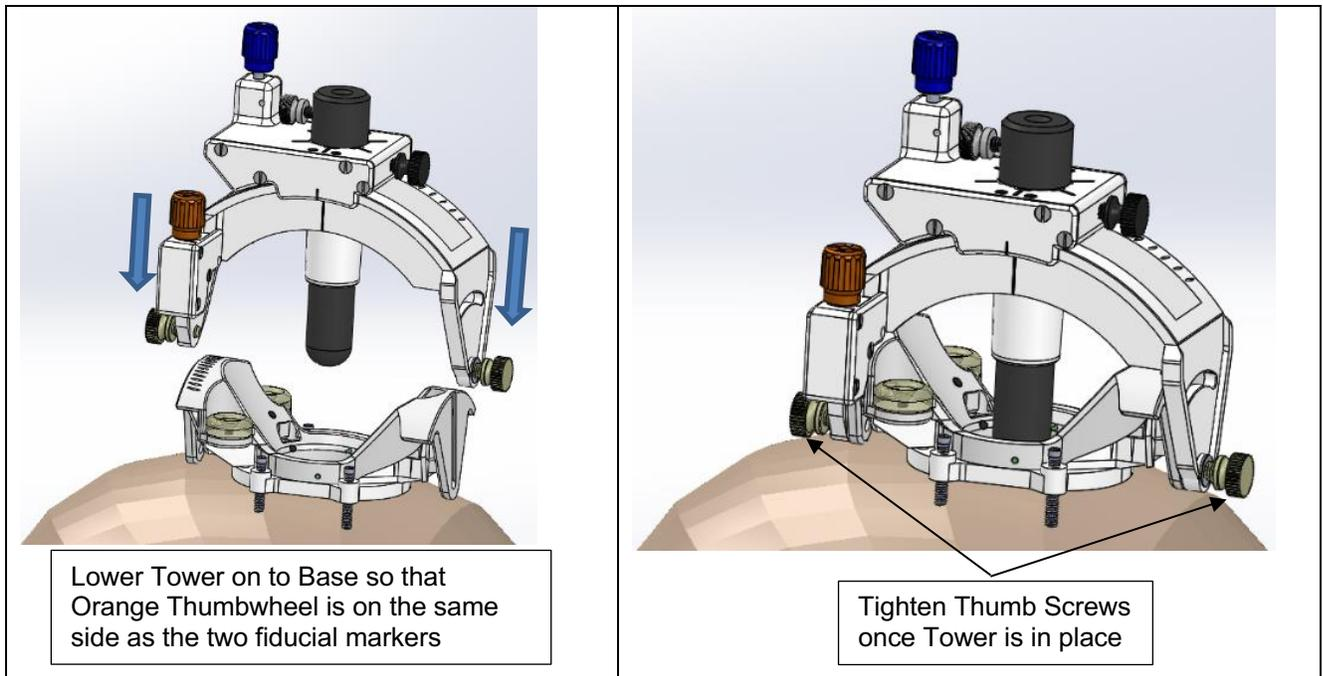

Figure 8: Assembling the Tower to the Base
- Grasp the Tower by the top rectangular gear housing. Align each screw with the mating grooves on the Base. **See Figure 8.** Slide the Tower into place and ensure screws seat into the mounting holes on the Base. Tighten the Tower side thumb screw to secure the Probe Adapter inside the tower.